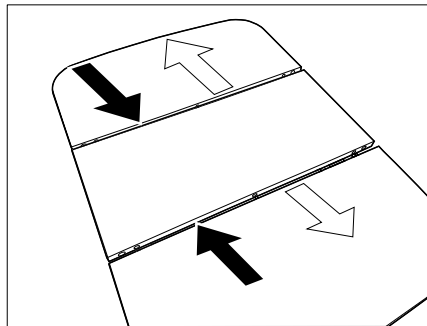

Fig. 110 Lowering the table
- Push the outer parts of the table onto the middle part (Fig. 110 - black arrows).
- Pull apart the outer parts of the table (Fig. 110 - white arrows).